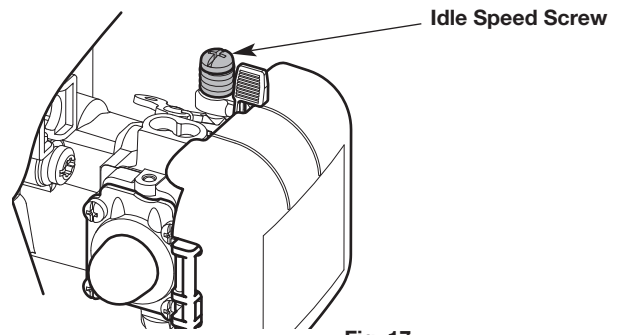

Fig. 17
- If the engine stops, increase the idle speed. Use a small Phillips screwdriver to turn the idle speed screw clockwise, 1/8 of a turn at a time, until the engine idles smoothly (Fig. 17).